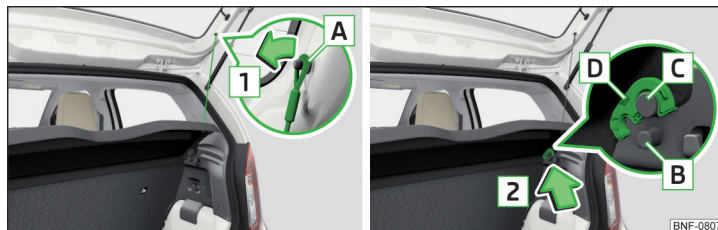

Fig. 83 Remove the luggage compartment cover
If the support straps **A** » Fig. 83 are attached to the boot lid, then opening the lid will raise the boot lid cover (hereafter referred to as cover).
- » Raise the cover and bolt it down » Fig. 83 on both sides of the boot lid in the studs **B**.
- » Fold the raised cover down. The cover is released from the studs **B** » Fig. 83.
- » On both sides of the boot lid unhook the straps **A** in the direction of arrow **1** » Fig. 83.
- » Position the fixtures **D** on the cover over the studs **C** » Fig. 83.